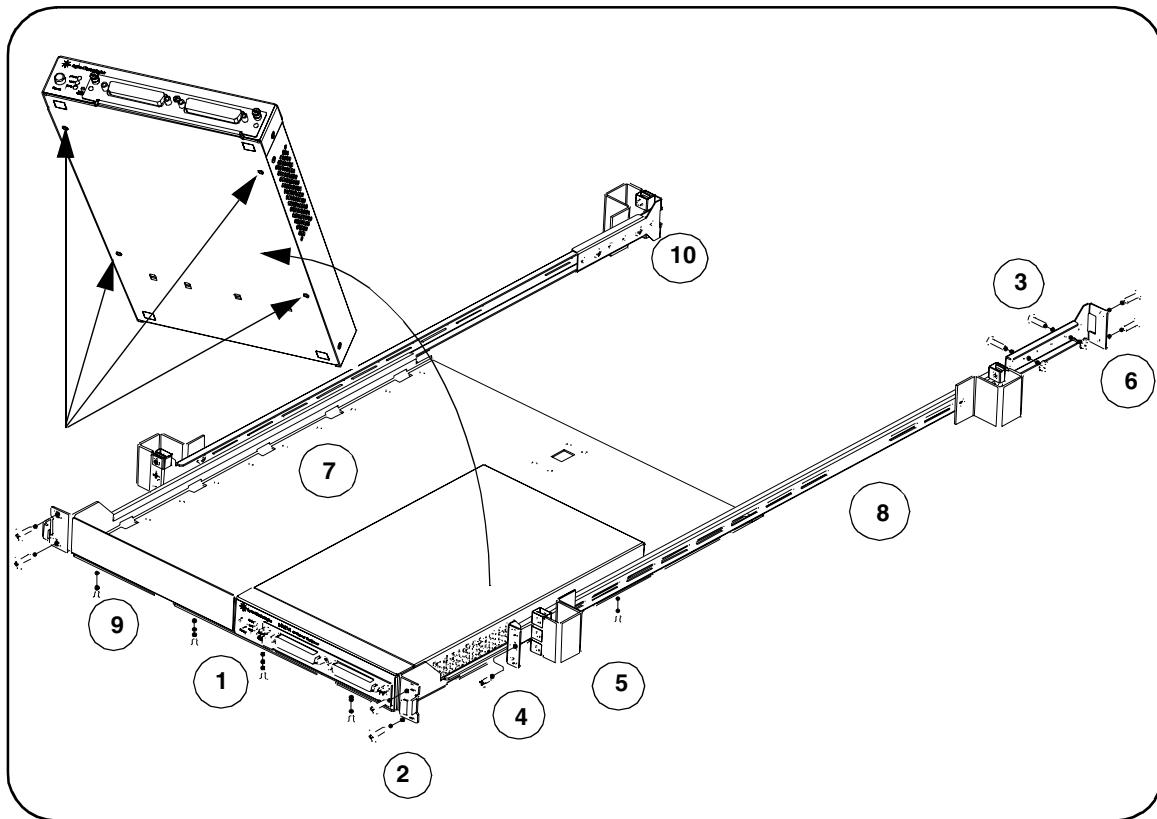

Figure 4-1. Y1160A Instrument Rack Mount Kit.
Figure 4-1 is a composite drawing of the Y1160A sliding shelf rack mount kit. The drawing shows the location/usage of the hardware items listed in Table 4-1.
3. Note the location of the four mounting holes on the bottom of the instrument (Figure 4-1). Set the instrument on the shelf, and align the mounting holes with the holes on the shelf. Insert four M4x8 flat head screws (item 1) upward through the bottom of the shelf and into the instrument mounting holes.
4. Install the second L4411A (if present) in the shelf area adjacent to the first instrument. If only one instrument is installed, install a filler panel on the front edge of the unused area. Insert two M4x8 flat head screws (item 1) upward through the bottom of the shelf and into the panel.